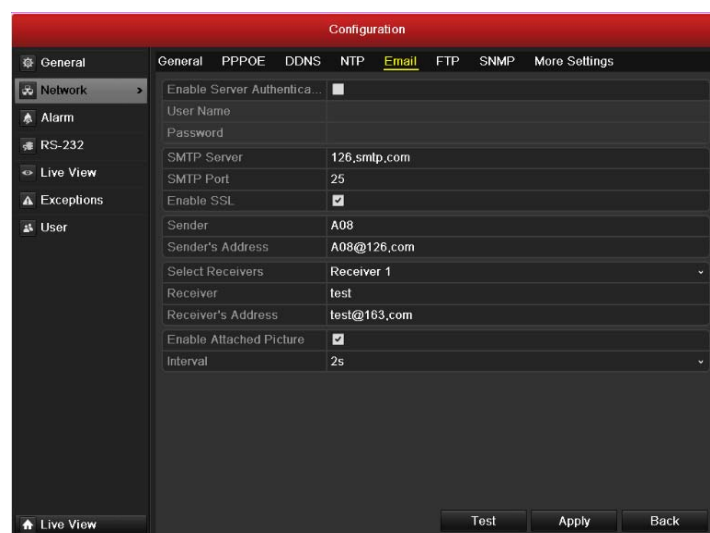

Figure 9.19 Email Settings Interface
3. Set **Multicast IP**, as shown in Figure 9.19. When adding a device to the Network Video Surveillance Software, the multicast address must be the same as the DVR's multicast IP.
2. Set the IPv4 Address, IPv4 Subnet Mask, IPv4 Gateway and the Preferred DNS Server in the Network Settings menu, as shown in Figure 9.19.